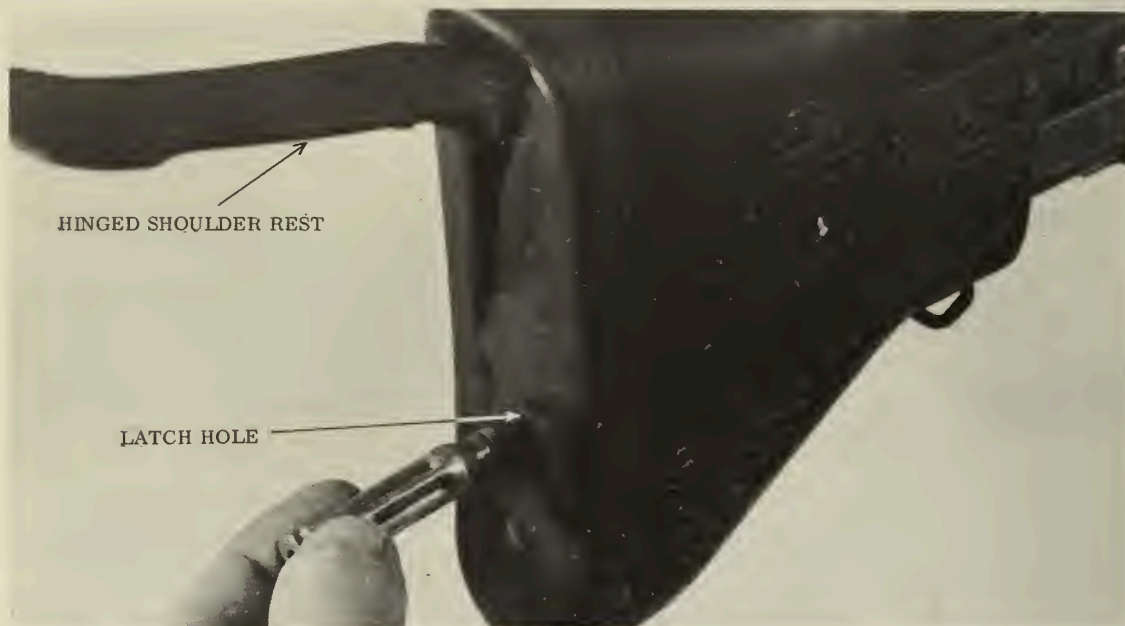

Figure 4. --Depressing the Latch.
(1) Raise the hinged shoulder rest and insert the nose of a dummy cartridge in the latch hole. (See fig. 4.)